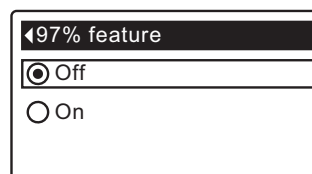

FIG. 81
**8c. 97% feature:** If the desired option already has a black dot next to it (See Figure 81), go to Step 9. Otherwise, press the DOWN (▼) or UP (▲) buttons to scroll to the other option, then press SELECT (O) to choose it. If this feature is On, the softener will automatically recharge when 97% of capacity is used, at any time of day. Default is Off.